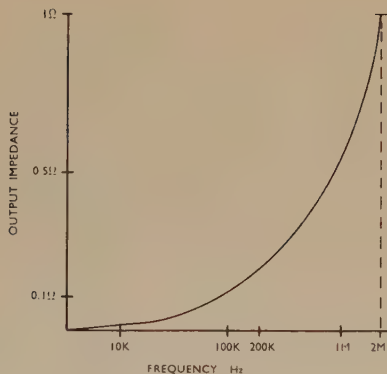

Fig. 2 Output Impedance
- For an alternating load superimposed on a steady load, the output impedance of the supply increases with frequency due to the fall off in gain of the amplifier until it is determined only by the output capacitor across the output terminals. A typical output impedance against frequency curve is shown in fig. 2.
See next page for fig. 2